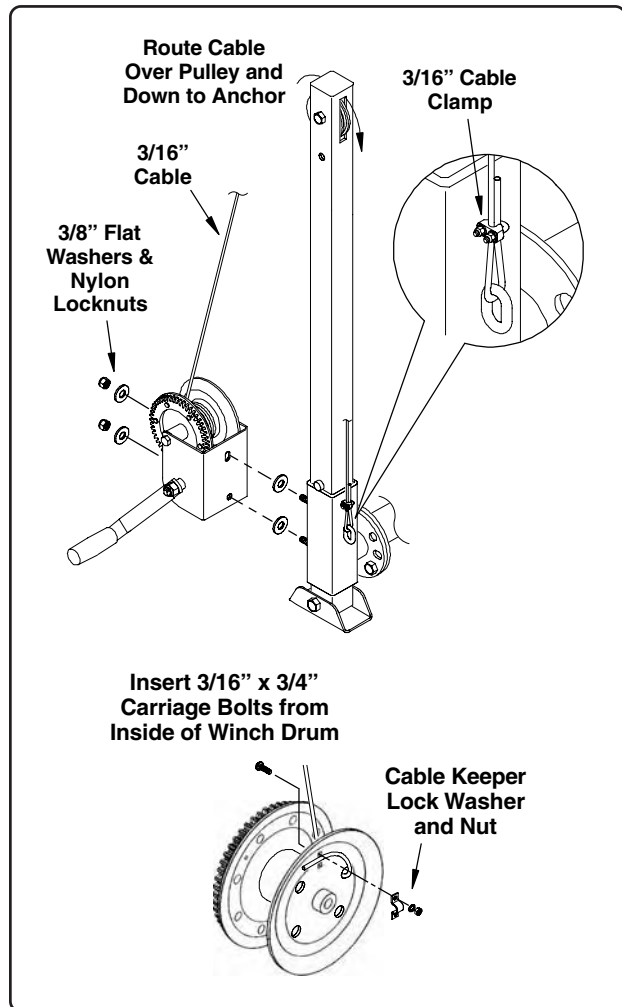

Fig. 28
6. Install a 3/8" flat washers onto each of the threaded studs welded to the square tube on the support tube weldment (See Fig. 28).
7. Install the 3/16" diameter cable starting at the winch end. Wrap the cable once around the winch drum and pass the short end of the cable through one of the holes in the side of the drum (attach the cable to the winch drum so that as the handle is turned clockwise, the cable wraps from the top of the drum, See Fig. 28).
8. Route the cable up through the slot, over the pulley and down to the cable anchor located on the lower portion of the support tube weldment (See Fig. 28). Secure the cable to the anchor using one (1) 3/16" cable clamp (make sure the u-bolt portion of the clamp is against the loose end of the cable).